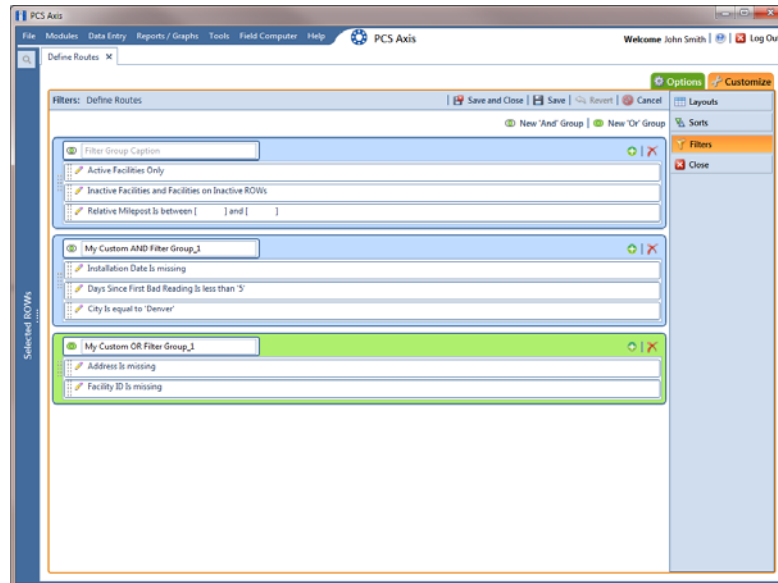

Figure 7-53. Filters
- 4 Click the edit icon  to display a filter's property settings (Figure 7-53).